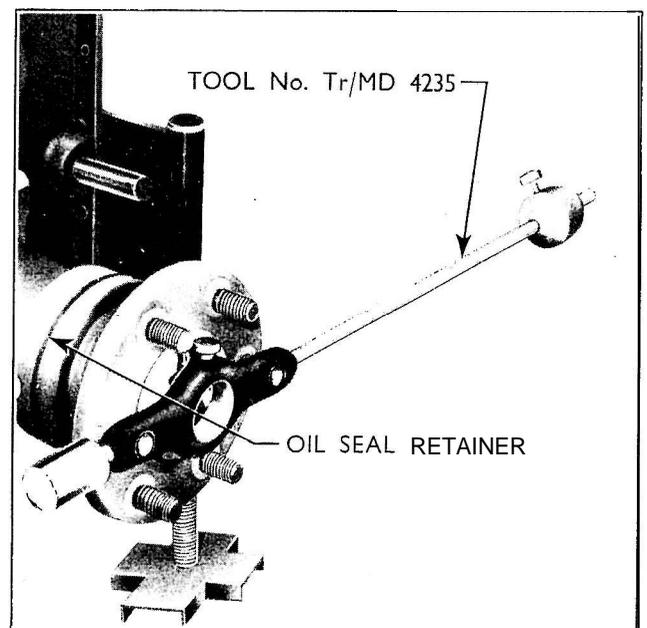

Fig 171
- 2 Secure the shaft with the castellated nut, using the tool No. Tr/NMD 4612, and then pre-load the axle shaft bearings to 40 to 45 in. lbs., using tool No. Tr/MD 4235, as illustrated in Fig. 171, after which the castellated nut should be secured with a split pin and the oil seal retainer staked to the rear axle housing. Replace the brake extension housing (see page 140).